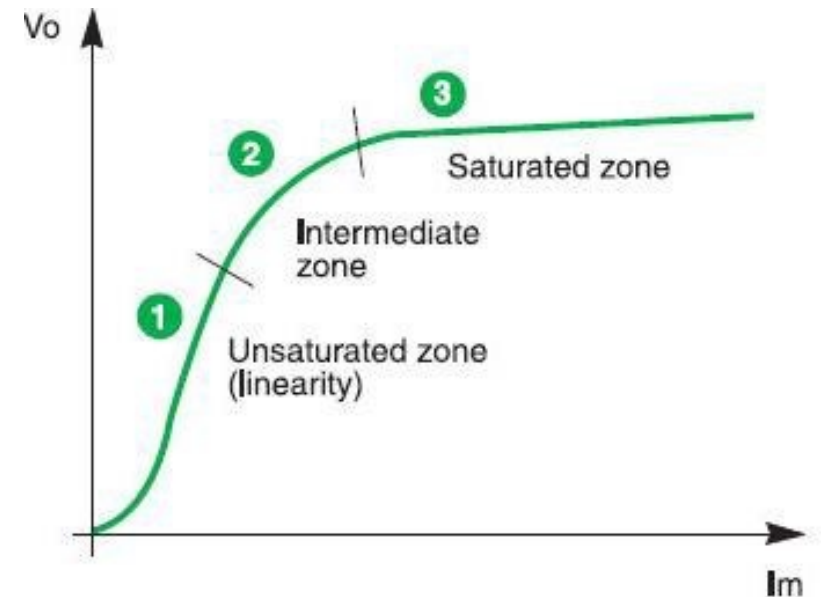

Figure 1.8: CT Magnetizing curve $V_o = f(I_m)$
- The magnetization curve can be divided into 3 zones as shown in Figure 1.8.